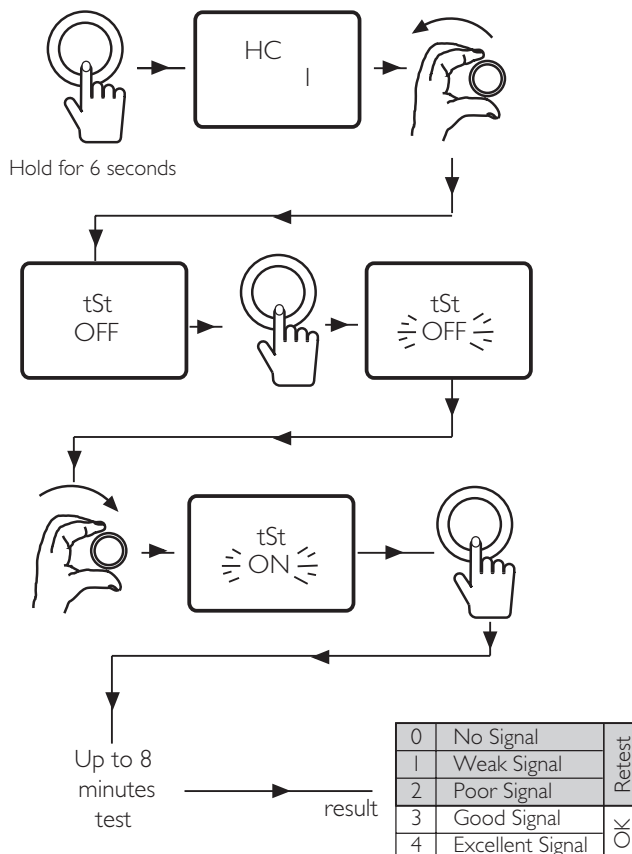

Fig. 15 Signal Strength Test
Before mounting the Programmer & Room Sensor to the wall, perform the following test to determine the signal strength. Fig 15.
4. Press the Selector Button to start the signal strength test. The test may last for up to 8 minutes. During this time, numbers ranging from 0 to 4 are displayed. '0' indicates no signal available and '4' shows excellent signal strength Fig 15. Baxi recommends locating the unit to give a signal strength of 3 or 4. If the signal is low, move the unit to a more suitable location and retest.